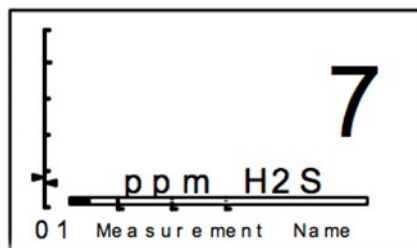

Figure 3-10 – EUNIT / Bar Graph Screen
- Display the Eunits/Bar Graph screen, shown in Figure 3-10, to observe incoming WTA broadcasts one channel at a time, which allows scrolling past all active channels with the UP/DOWN keys.
The controller EUNIT/Bar Graph screen in Figure 3-10 consists of: